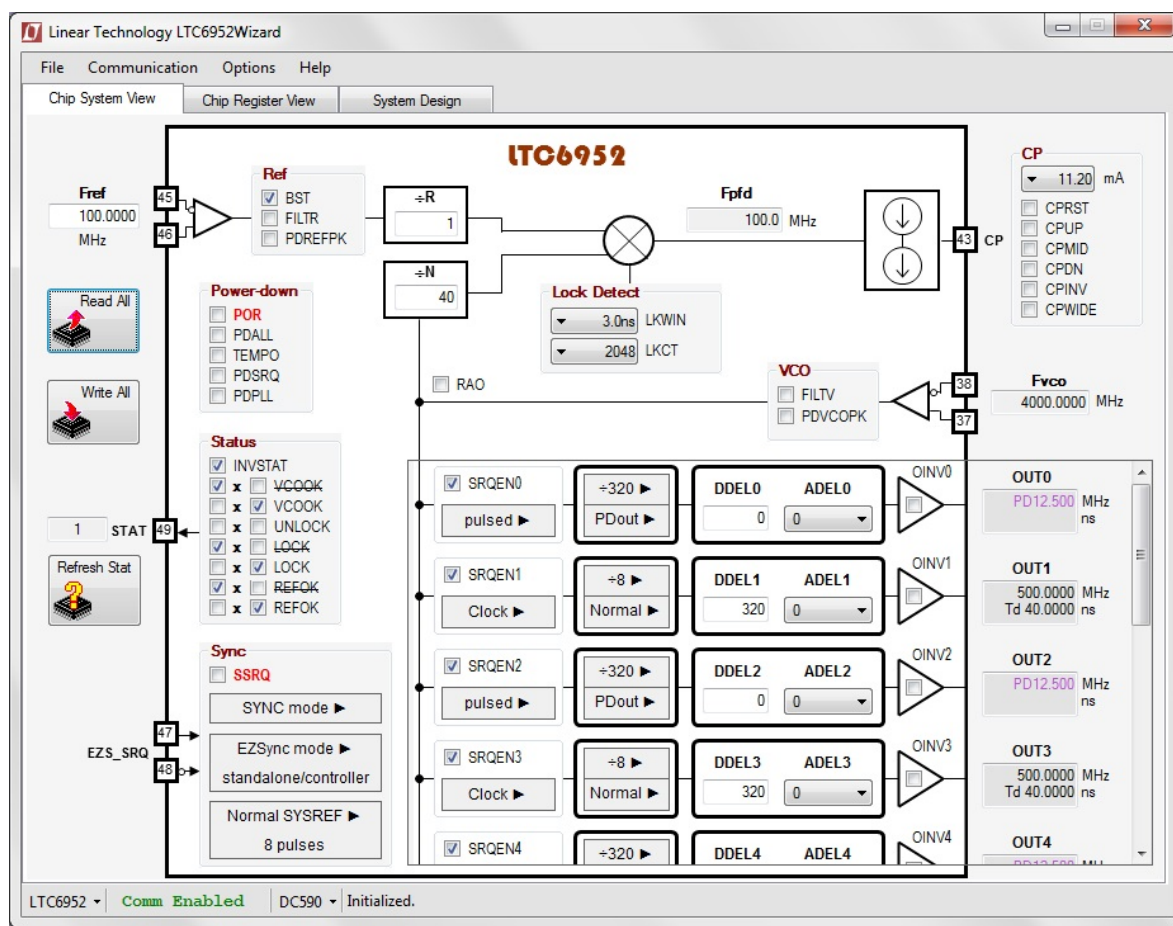

Figure 3. LTC6952Wizard Screenshot
1. In LTC6952Wizard's System tab click "Read All". LTC6952Wizard should match Figure 3. If not, see "Verify DC2609A and LTC6952Wizard Communication"
To verify communication with the DC2609A. The bottom status line in LTC6952Wizard should read "LTC6952" and "Comm Enabled" as shown in Figure 3. If not, then perform the following steps: